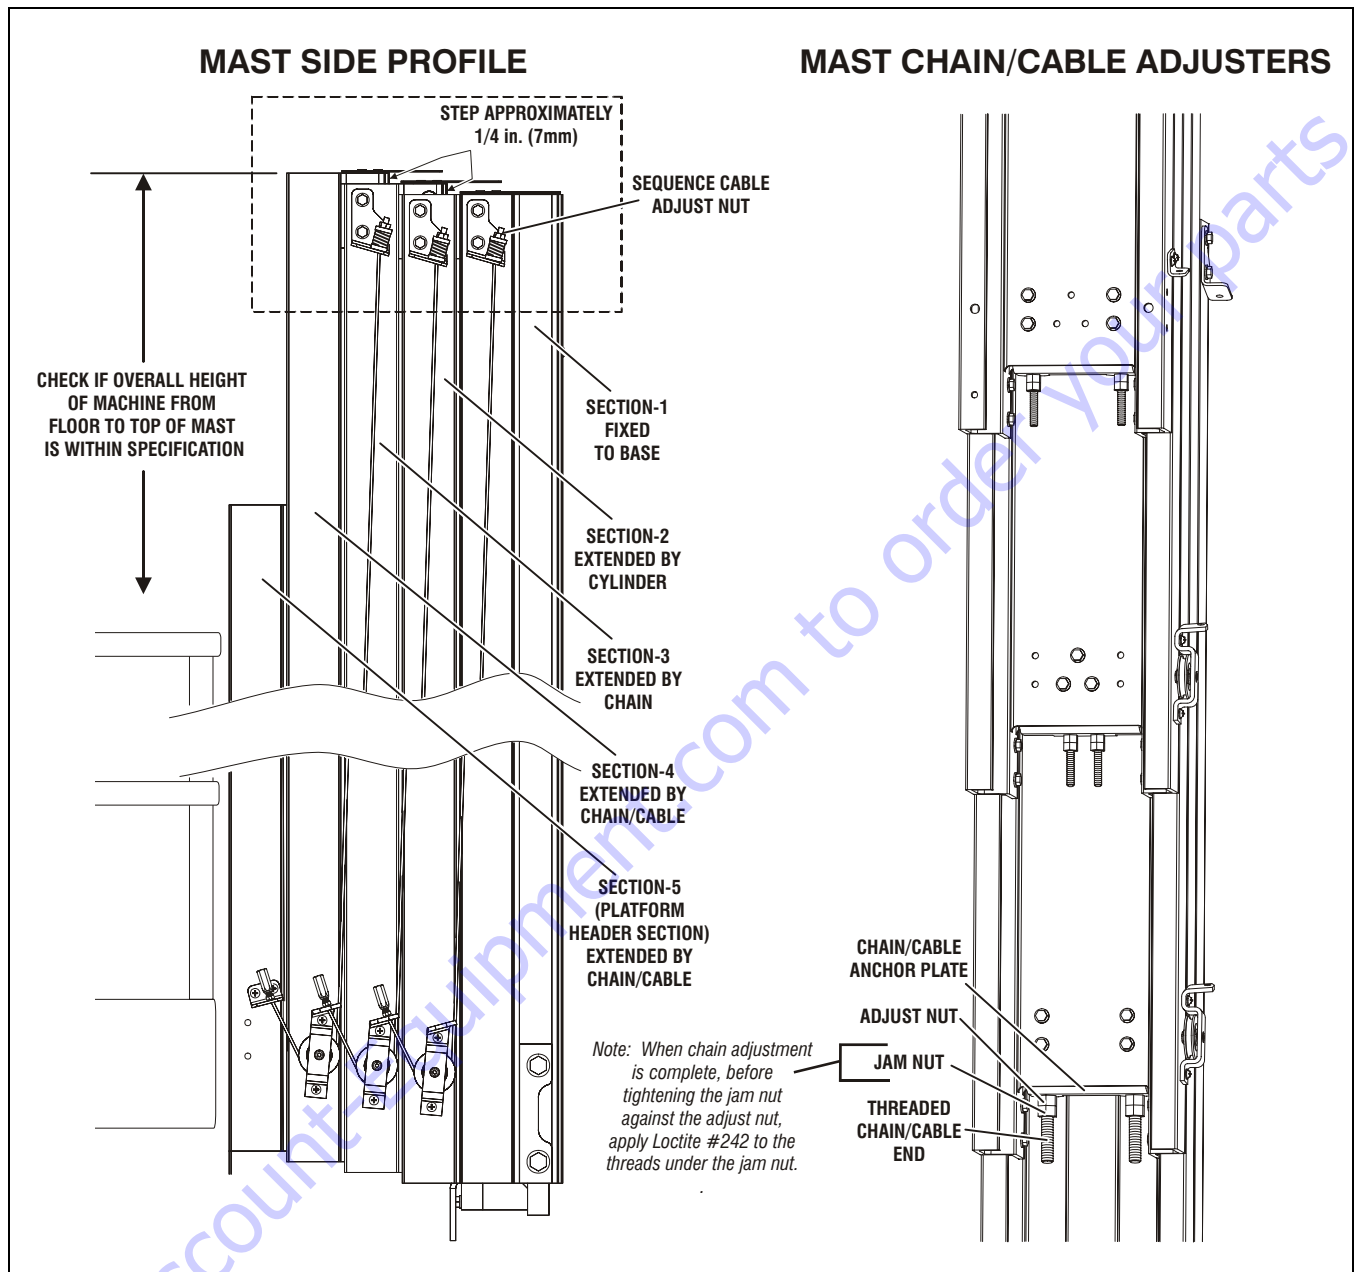

Figure 2-6. Mast Chain/Cable/Sequence Cable Adjustment Components. (Typical)
- Then with no load in the platform check the side profile of the top of the mast for the amount of adjustment necessary to obtain the 1/4 in. (7mm) step for mast sections-3 and up. (*See Figure 2-6.*)
- Tighten** (*to raise mast section*), **or loosen** (*to lower mast section*) **the adjusting nut** against the anchor plate on each chain/cable. Adjust the nut the amount required to raise or lower the top of the mast section to match the side profile shown in Figure 2-6. when the mast is retracted.
7. Retract the mast all the way and check if the top of the mast sections appear as shown in Figure 2-6.
8. Repeat steps (1) through (7) for remaining mast sections.
3. Be certain the mast is completely retracted and at the bottom of travel. Check the mast "Side Profile" at the top of the mast as shown in Figure 2-6., adjust mast sections to proper height if necessary.